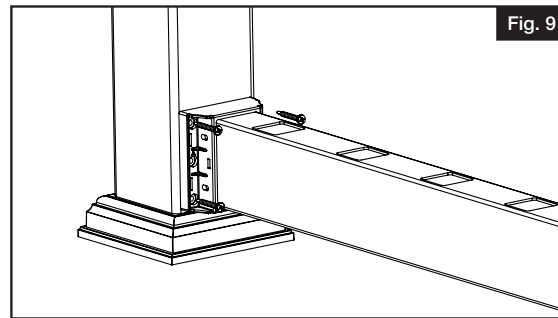

Fig. 9
- Drive the first #10 x $1\frac{1}{2}$ " screw through bottom bracket into post (Fig. 9).